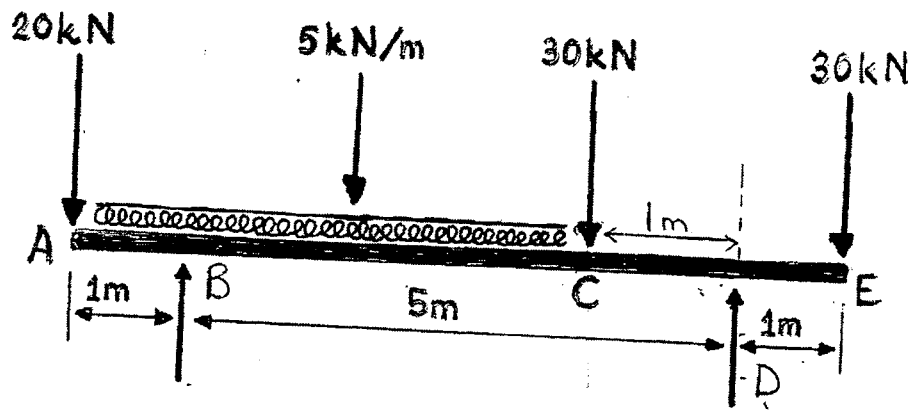

FIGURE 1
- 4.2 A light, uniform beam ABCDE is 7 m long and is supported by two supports as shown in FIGURE 1, DIAGRAM SHEET 1 (attached).